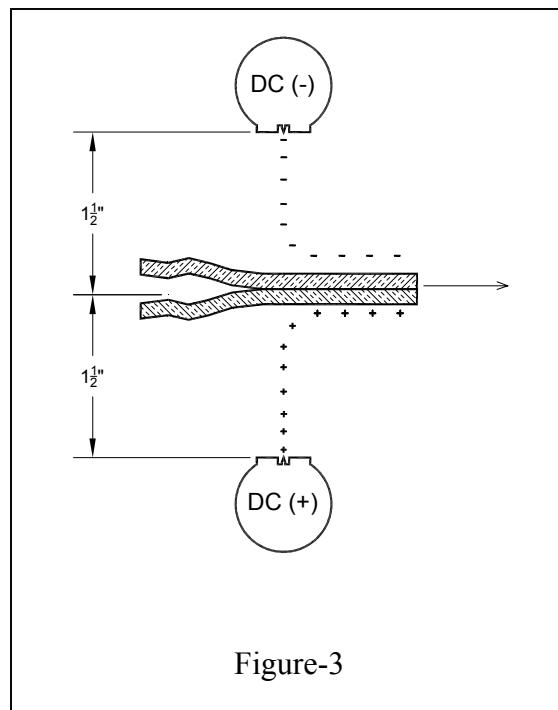

Figure-3
3. **Two Charging Bars** In Figure-3, one charging bar faces another of opposite polarity in an application where decorative sheets are pinned to both sides of heavy particleboard prior to laminating. As the materials move between the charging bars, the opposite polarity ions created by each bar are driven toward each other by an electric field formed between them. The decorative sheets block ion travel through the field and become electrostatically charged, resulting in adhesion between the two sheets and the particleboard. With this arrangement, the voltage differential between the charging bars can be substantial. The sizeable voltages cause higher levels of charge to be deposited on the decorative sheets, which results in the highest level of electrostatic adhesion. This method of charging materials is generally used in the most difficult pinning applications. Dual polarity BP-Series power supplies are designed for applications like this.